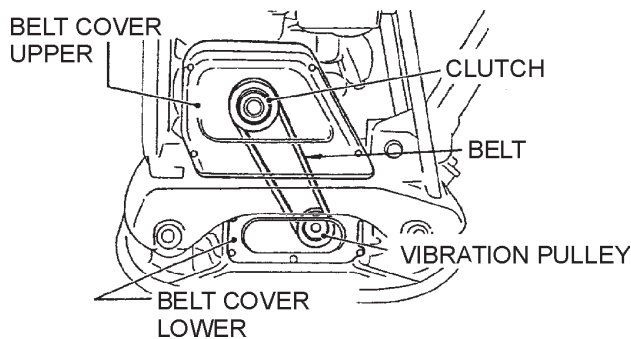

Figure 19. V-Belt Location
1. To check the V-belt tension (Figure 19), remove **upper** belt cover.